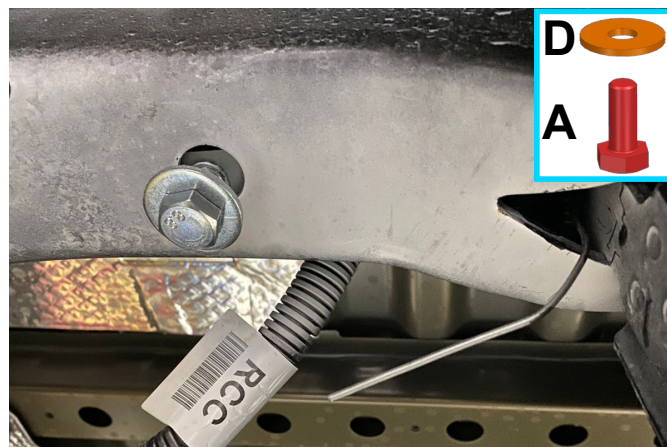

Fig. 6
4. Attach bolt M10x25 (item A) and washer 10 (item D) to insert nut M10x65 with wire (item C), as shown in fig.6.